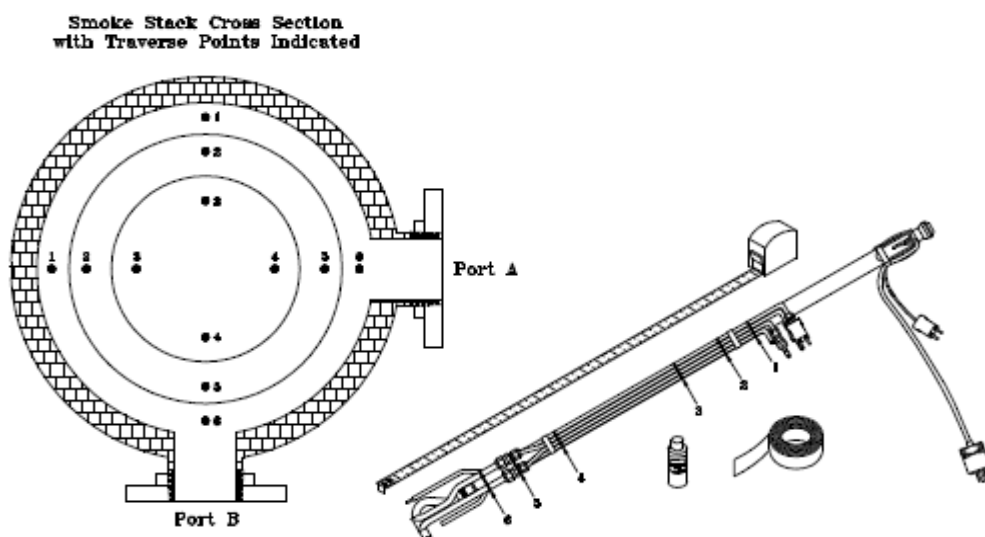

Figure 36 - Illustration of Marking Traverse Points on Probe Assembly
- Measure each traverse point location from the tip of the Pitot tube, and mark the distance with heat-resistant fiber tape or whiteout correction fluid, as illustrated in Figure 36 - Illustration of Marking Traverse Points on Probe Assembly.